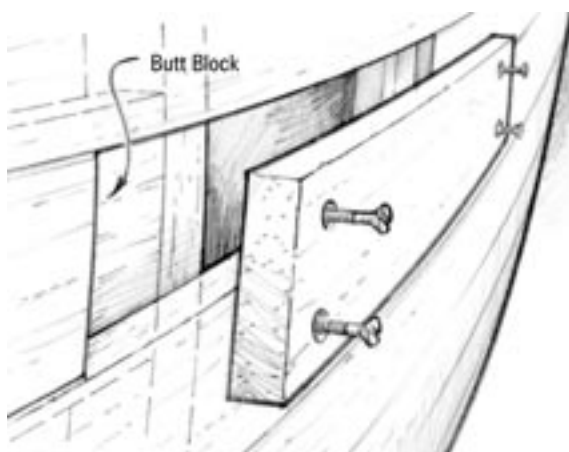

Figure 6-7 Replace a section of plank using butt joints.
2. Cut a replacement piece of wood for the opening and a piece for a backing plate (*Figure 6-7*). A backing plate will be required behind each butt joint unless the joint falls on a frame. When the repair section falls between frames, the backing plate should run from frame to frame. When replacing longer sections of planking, a backing plate is only required at the ends.